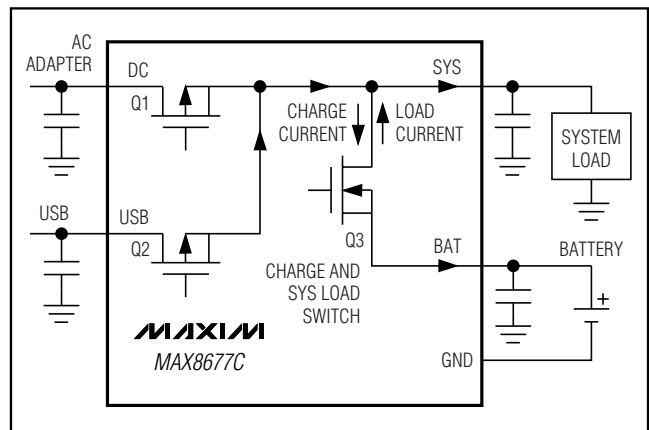

Figure 4. Smart Power Selector Block Diagram
The MAX8677C Smart Power Selector seamlessly distributes power between the external inputs, the battery, and the system load (Figure 4). The basic functions performed are:
An internal 40mΩ MOSFET connects SYS to BAT (Q3, Figure 4) when no voltage source is available at DC or USB. When an external source is detected at DC or USB, this switch is opened and SYS is powered from the valid input source through the input limiter.
The input voltage limiter is essentially an LDO regulator. While in dropout, the regulator dissipates a small  $I^2R$  loss through the  $0.2\Omega$  MOSFET (Q1, Figure 4) between DC and SYS. With an AC adapter or USB source connected, the input limiter distributes power from the external power source to the system load and battery charger. In addition to the input limiter's primary function of passing power to the system and charger loads at SYS, it performs several additional functions to optimize use of available power:
- **Input Voltage Limiting.** If an input voltage is above the overvoltage threshold (6.9V typ), the MAX8677C enters overvoltage lockout (OVLO). OVLO protects the MAX8677C and downstream circuitry from high-voltage stress up to 14V at DC and 8V at USB. In OVLO, VL remains on, the input switch that sees overvoltage (Q1, Q3, Figure 4) opens, and the appropriate power-monitor output ( $\overline{DOK}$ ,  $\overline{UOK}$ ) is high impedance, and  $\overline{CHG}$  is high impedance.
If both DC and USB see overvoltage, both input switches (Q1 and Q2, Figure 4) open and the charger turns off. The BAT-SYS switch (Q3, Figure 4) closes, allowing the battery to power SYS.
An input is also invalid if it is less than BAT, or less than the DC undervoltage threshold of 3.5V (falling). With an invalid input voltage, SYS connects to BAT through a  $40m\Omega$  switch (Q3, Figure 4).
The total current through the switch (Q1 or Q2 in Figure 4) is the sum of the load current at SYS and the battery charging current. The limiter clamps at 4.35V, so input voltages greater than 4.35V can increase power dissipation in the limiter. The limiter power loss is  $(V_{\text{DC}} - 4.35) \times I$ , but not less than  $I^2 \times 0.2\Omega$ . Also note that the MAX8677C turns off any input that exceeds 6.9V (nominal).